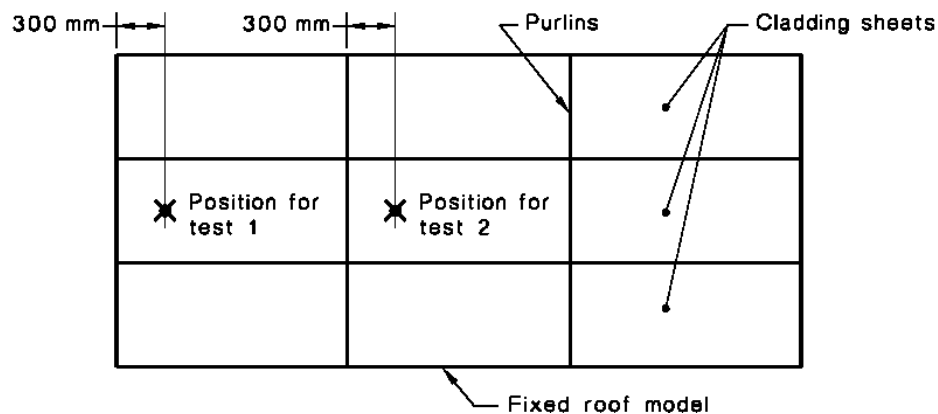

FIGURE 1 TEST POSITIONS
- (b) Position the sandbag and hoist in relation to the test specimen so that the centre of the base of the sandbag strikes the specimen midway between crests approximately in the centre of the test sheet and 300 mm from the edge purlin or stud (see Figure 1). This position of impact is checked by lowering the sandbag to rest gently on the test specimen.
- (e) Assess the result and if the test specimen is considered to have failed, repeat the procedure varying (b) by positioning the sandbag and hoist in relation to the test specimen so that the centre of the base of the sandbag strikes the specimen midway between crests approximately in the centre of the test sheet and 300 mm from an intermediate purlin, or stud, in the centre span (see Figure 1). This position of impact is checked by lowering the sandbag to rest gently on the test specimen.